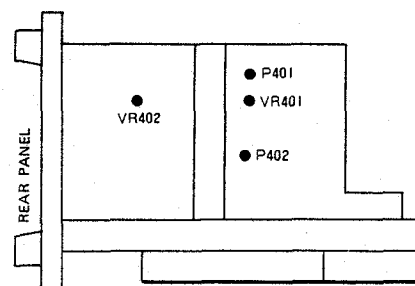

Fig. 42 Location of adjustment, left side of scope
4. CRT Center Adjustment (Fig. 42)
8. Sensitivity Adjustment (Fig. 42)